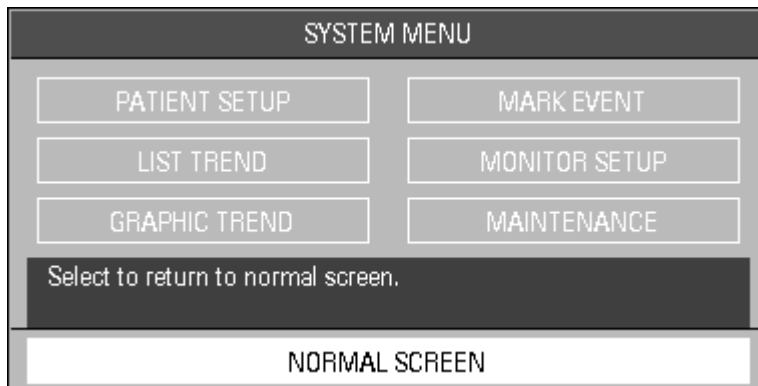

FIGURE 2-1 System Menu
- a. Use the Navigator™ Knob to select the **MENU** icon located in the bottom right corner of the screen. The **SYSTEM MENU** (FIGURE 2-1) is displayed.
Use the Navigator Knob to select the **MENU** icon in the lower right corner of the screen. The **SYSTEM MENU** (FIGURE 2-1) is displayed. From the **SYSTEM MENU**, select a submenu.